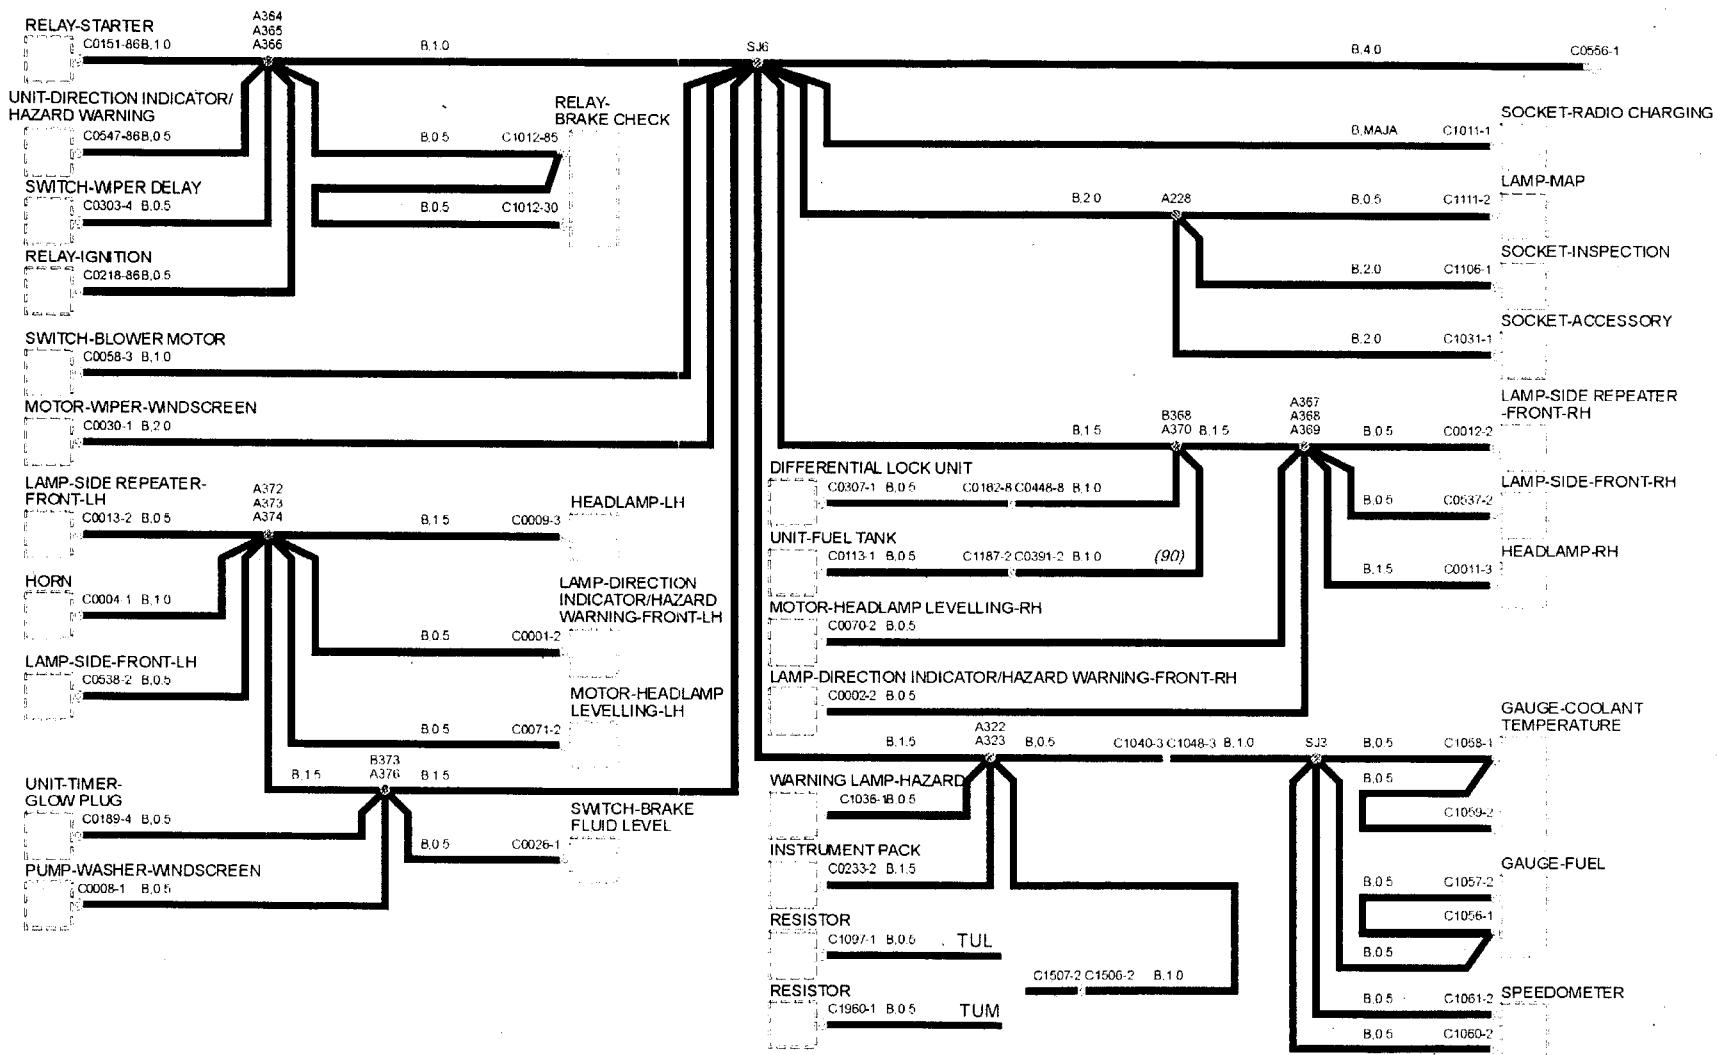

Fig 11 Earth distribution I – Non EEGR
20 Fusible links (refer to Fig 11 (A)) and current fuses (B), are identified as shown. The direction of the arrow in a diode symbol (C) indicates the direction of flow. The Zener diode (D) prevents current flow until a precise voltage is reached.